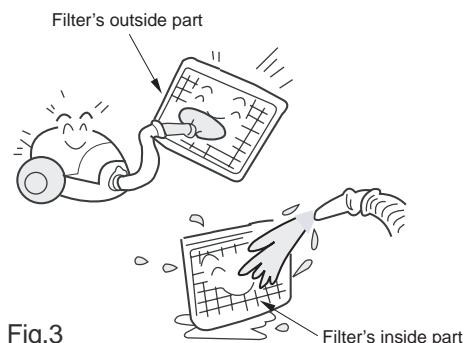

Fig.3
- If the cleaning is carried out with water, the filter's inside part must be oriented towards you (Fig. 3).